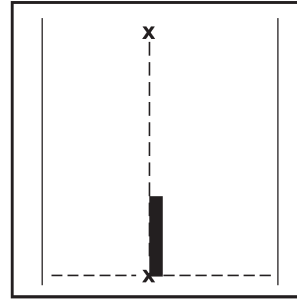

Figure 48
- Lay out the straight arrow base (liner still on) with the LEFT edge along the left chalk line and the base along the base line (see Figure 48).